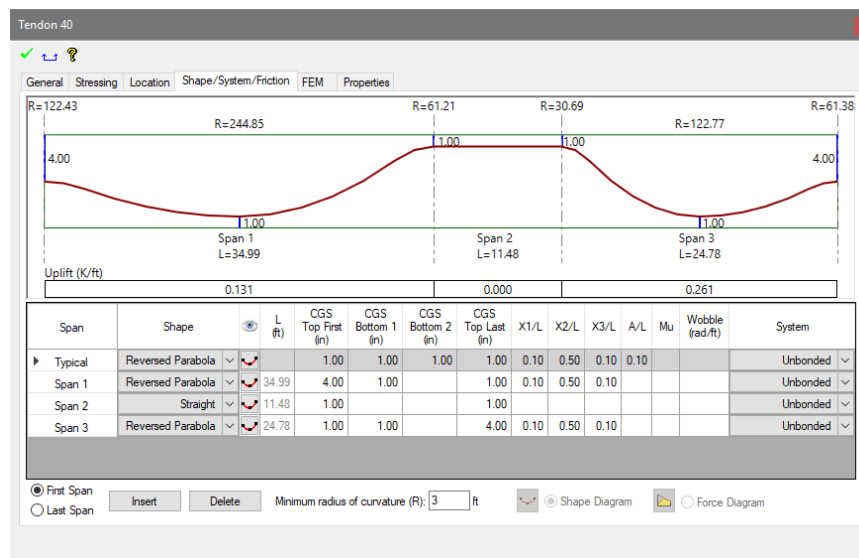

Figure 8-38
- If we **double-click** on one of the selected tendons and click on the *Shape/System/Friction* tab of the tendon properties the user should see a profile similar to that shown in **FIGURE 8-38**.